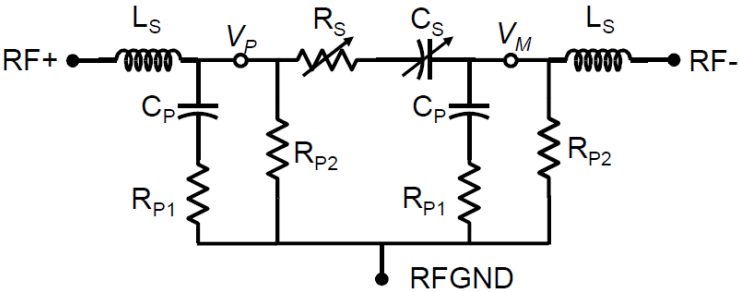

Figure 16. Equivalent circuit model schematic
- The node voltages are defined per the equivalent circuit model schematic (Figure 16). When the DTC is part of reactive network, impedance transformation can cause the internal RF voltages (V_P and V_M) to exceed the peak operating RF voltage even with the specified RF input power levels. For operation above +20 dBm (100 mW), the complete RF circuit must be simulated using actual input power and load conditions, and internal node voltages (V_P and V_M in Figure 16) monitored to not exceed 30 V_{PK} .